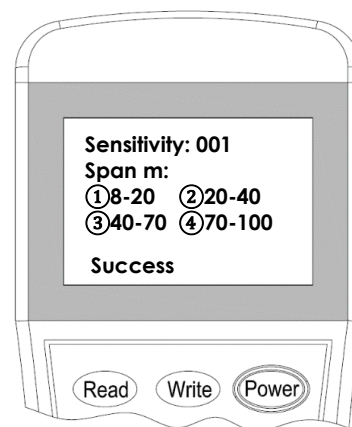

Figure 11
2. Then enter then press “0/Page” key to highlight the previous Span setting. Then press value from **1, 2, 3** or **4** correspond to the span value and then press “**Write**” key(Figure 11).